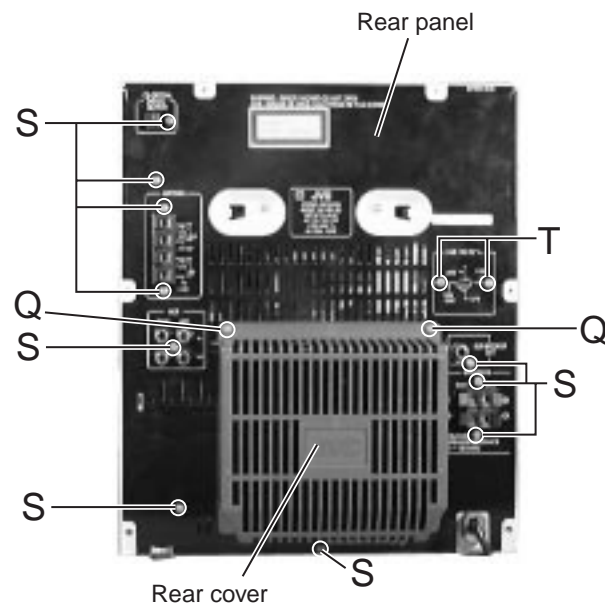

Fig.18
■ Removing the Rear Cover (See Fig.18)
■ Removing the Rear Panel (See Fig.18 to 21)